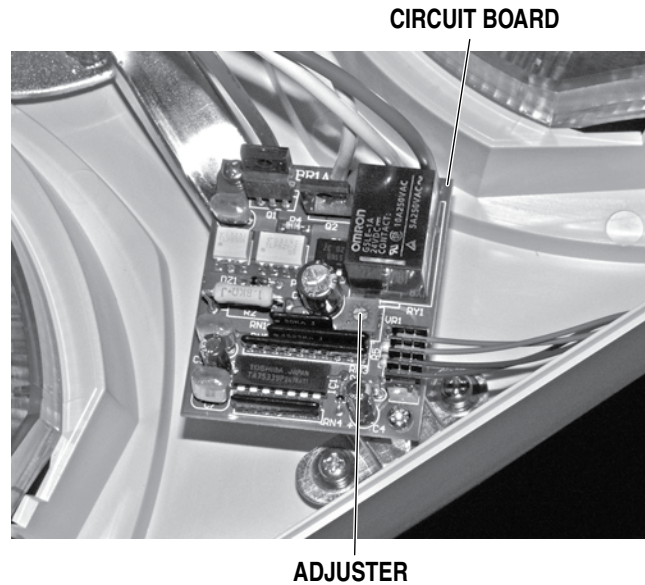

Figure 4-15. Voltage Adjustment (ST19)
b. Adjust the voltage to the lighthouse by turning the adjuster on the lighthouse circuit board. See figure 4-15.